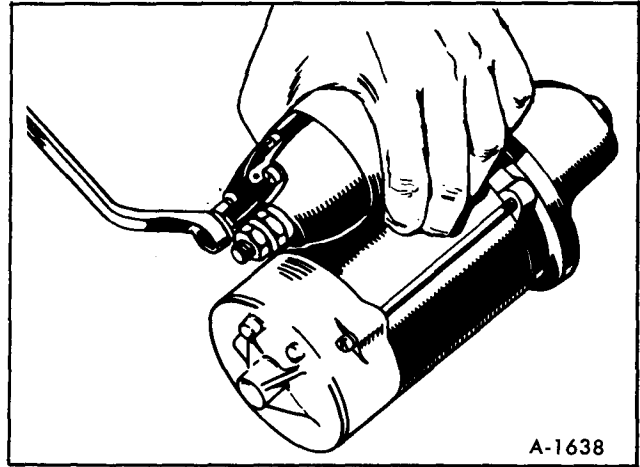

Figure 58—Removing Connector Lead
tor terminal to the field coil connector lead and take off the connector lead (figure 58).
1. Loosen the nut that attaches the solenoid motor terminal to the field coil connector lead and take off the connector lead (figure 58).